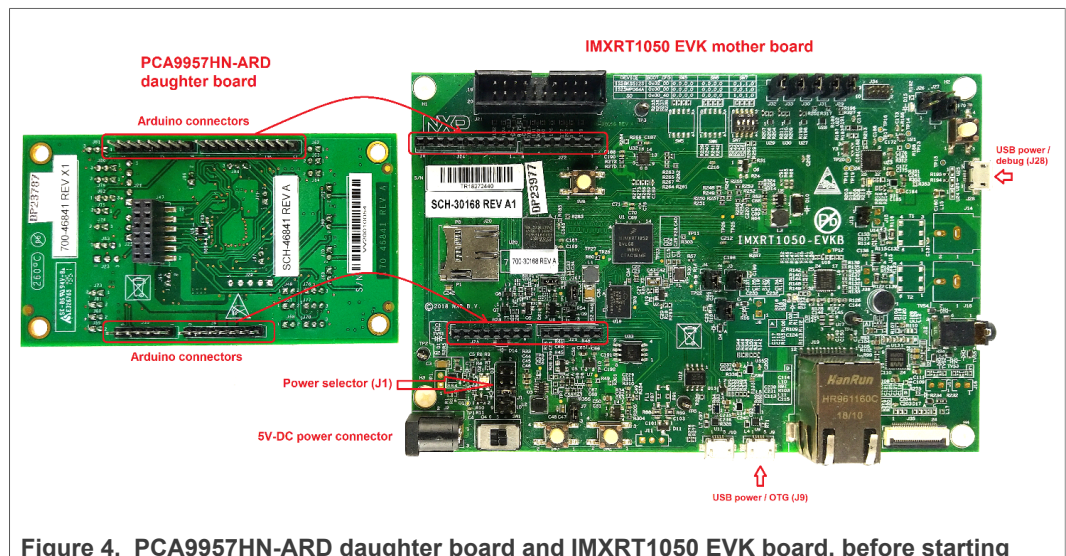

Figure 4. PCA9957HN-ARD daughter board and IMXRT1050 EVK board, before starting
Figure 4 shows the required hardware for operation of the PCA9957HN-ARD daughter board with IMXRT1050 EVK.
From J1 on the EVK board (see Figure 4) the user can select the power configuration for the mother board. For further details, download the IMXRT1050 EVK Board Hardware User Guide (IMXRT1050EVKHUG.pdf) available here.
3. Insert the PCA9957HN-ARD daughter card into the Arduino connector on the EVK. (See Figure 4.)